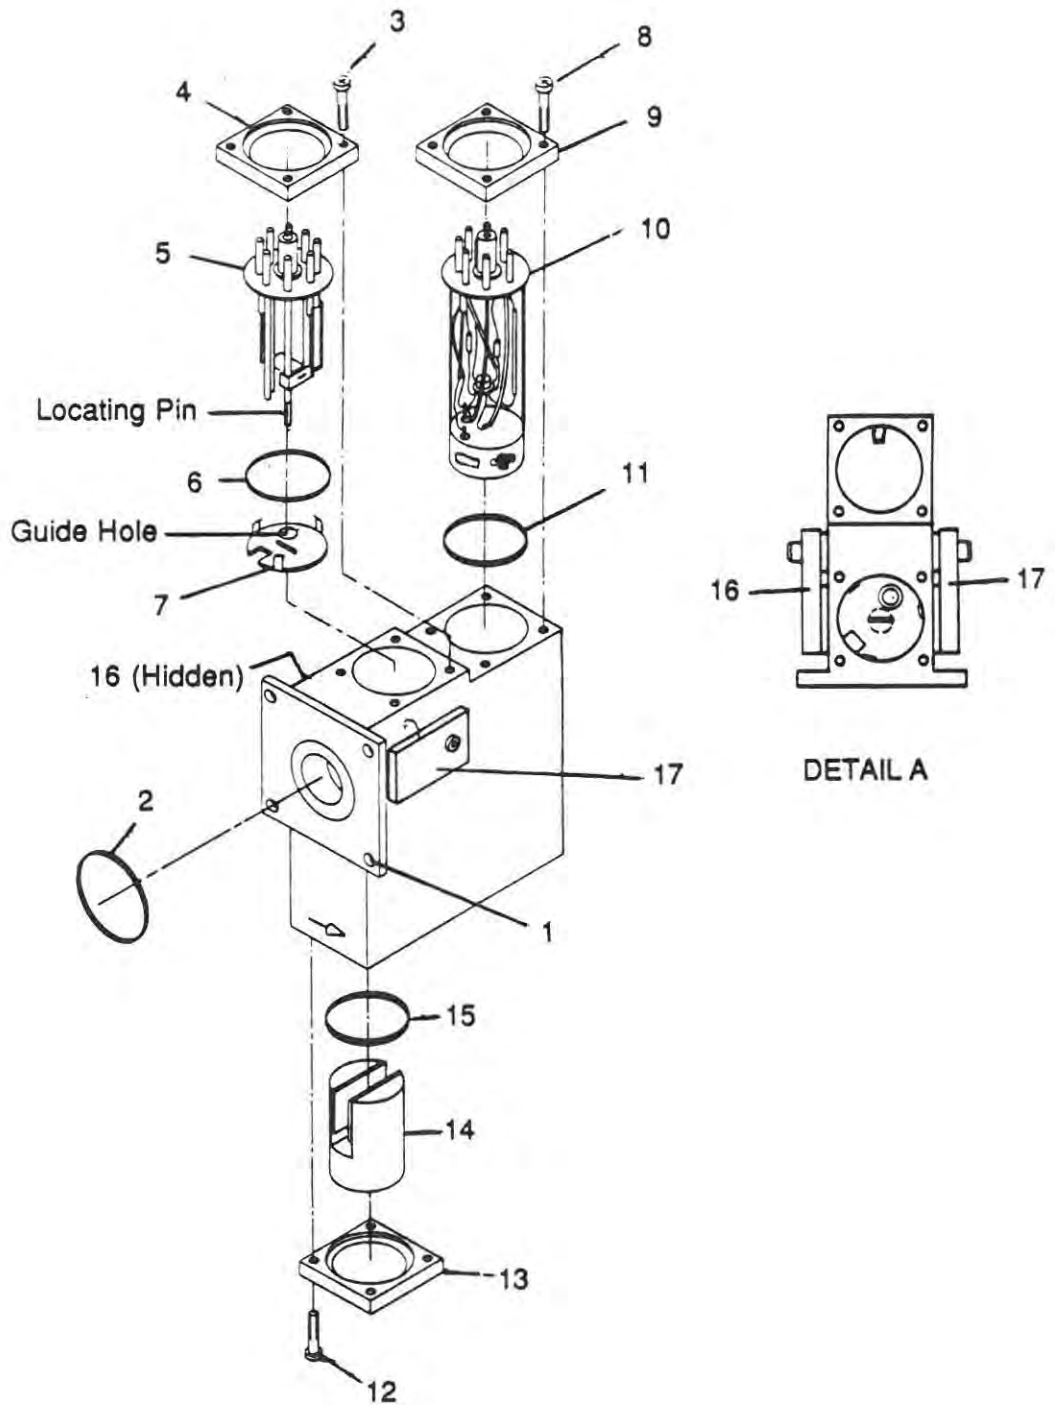

Figure 5-3. Spectrometer Tube Exploded View.
- 3 Place the locating pin of the new ion source approximately in the center of the guide hole as shown in Figure 5-3.
- 5 Remove the Allen screws (1, Figure 5-3) from the spectrometer tube flange.
- 6 Rock the spectrometer tube gently to break its vacuum. Look for and carefully remove the O-ring (2) under the flange. Note the position of the grounding strap.
- 8 Remove the four Phillips head screws (3) that hold the flange cap (4) onto the ion source (5).
- 9 Firmly but gently separate the flange cap (4) from the ion source (5). Note the O-ring (6) on the ion source; remove and discard both the O-ring and the ion source (Varian part no. 82850-302).
5-3-7 Assembly of the Spectrometer Tube (Refer to Figure 5-3)
- 1 Install a new ground slit plate (7) carefully. Be sure that the snappongs fit snugly and are facing up. Using a long, thin screwdriver, align the slit at 90° with the side wall of the spectrometer tube. Concentrically align the circular hole in the plate with the smaller guide hole in the bottom of the ion source cavity (see Detail A, Figure 5-3).
- 2 Wipe a new O-ring (6) and the mating surfaces with a clean, lint-free cloth and place the new ion source (5) in its cavity by:
- c tightening the flange cap (4) evenly and firmly with the four Phillips head screws (3).
- 3 Wipe a new O-ring (11) and mating surfaces. Place the preamplifier (10) in its cavity with the O-ring in place. Orient the preamplifier so it is properly keyed. Tighten the flange cap (9) evenly and firmly using the four 9/64 Allen head cap screws (8).
- 4 Carefully place the analyzing magnet assembly in its cavity with a new O-ring. **Be sure to place the magnets so that the arrow on the analyzing magnets is perpendicular to the side of the spectrometer tube body. Check that the arrow is in the same direction as the arrows on the spectrometer tube body and enhancement magnets (see Figure 5-3).** Again, wipe the O-ring and mating surfaces with a clean, lint-free cloth and tighten the flange cap (5) evenly and firmly.
- 5 Wipe a new mounting O-ring (2) and mating surfaces with a clean, lint-free cloth. Hold the spectrometer tube with one hand and install four Allen screws (1). Tighten the screws evenly to insure a proper metal-to-metal seal. Remember to attach the grounding wire.
- 1 While the spectrometer tube is disassembled from the pumping system frame, secure the rear magnet (closest to the pumping system frame). Check that the arrow on the magnet matches the direction of the arrow on the body of the spectrometer tube (see Figure 5-3).